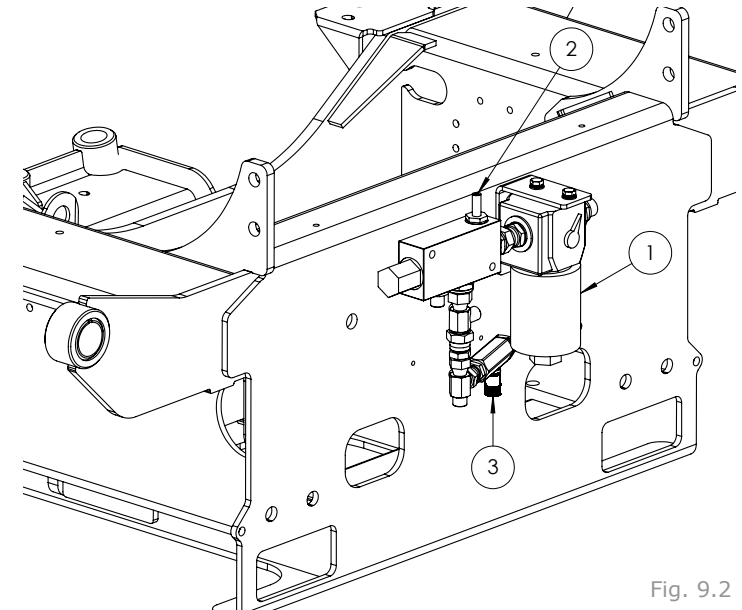

Fig. 9.2
The speed of the wrapping arm on the 1310 EH model is set by the valve (2) at the rear of the chassis adjacent to the oil filter (1) (clockwise rotation reduces the speed), the roller speed can be adjusted by turning the knob of the valve (3) directly below the wrap arm speed adjustment valve (clockwise rotation increases the speed) (see Fig 9.2).